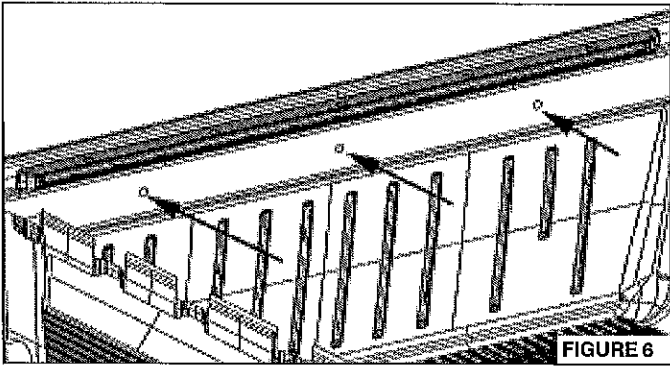

FIGURE 6
There are three (3) pre-drilled holes in the front wall of the bedliner for placement of the self tapping screws provided in the kit. (Fig. 6). Using a power screwdriver, center a self tapping screw in the center pre-drilled hole in the bedliner front wall and fasten to the truck bed front wall. (Do Not overtighten as screws can be stripped out.)